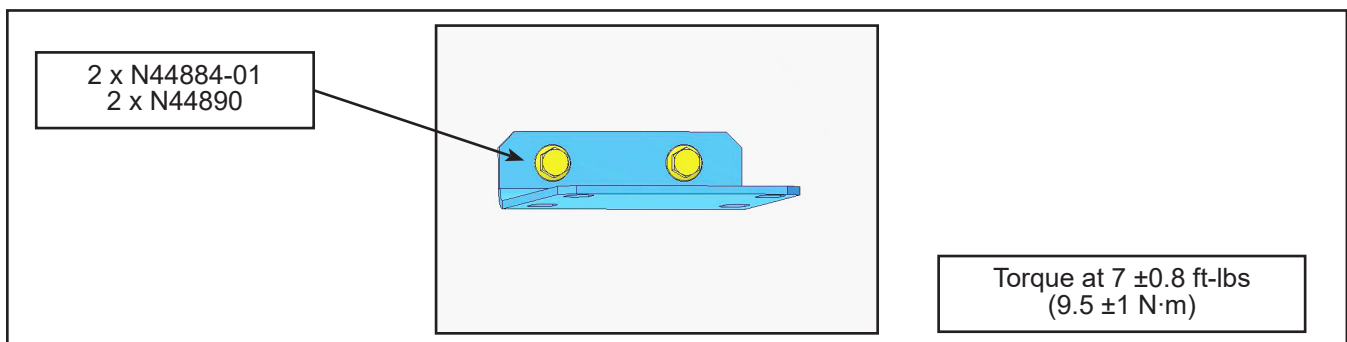

Figure 3 - Mount Support on Structure with Screws and Nuts
- 1.8. Install the support bracket with 4 screws N44884-01 and 4 nuts N44890. Torque at the torque value shown in Figure 3.